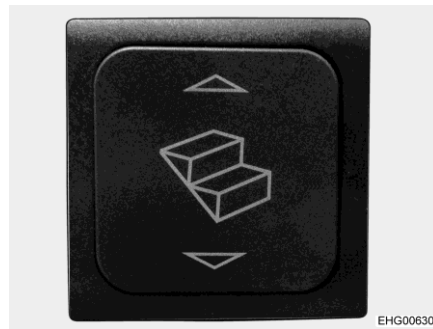

Fig. 3 Operating switch entrance step
- Press the rocker switch (Fig. 3,1) down until the entrance step has extended completely.
- Press the rocker switch (Fig. 3,1) up until the entrance step has retracted completely.